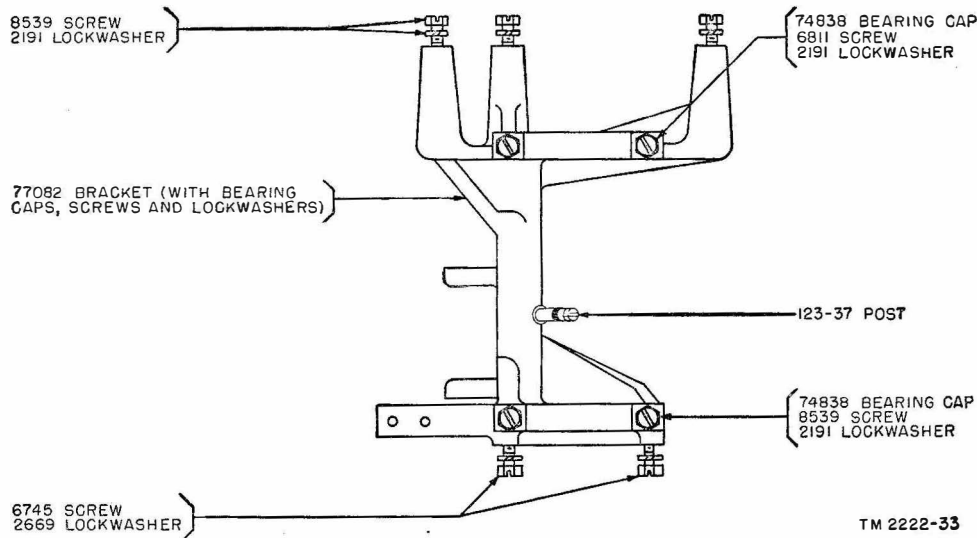

Figure 101. Main-shaft mounting bracket assembly common to all types.
*a.* Figures 101 through 153 illustrate and identify parts used in model 14 transmitter distributors. Numbers for parts shown in these illustrations are manufacturer's parts numbers. Signal Corps stock numbers for the parts illustrated appear in paragraphs 2 through 6 of this appendix. In nearly all instances, Signal Corps stock numbers are the manufacturer's parts numbers plus the prefix 4T.